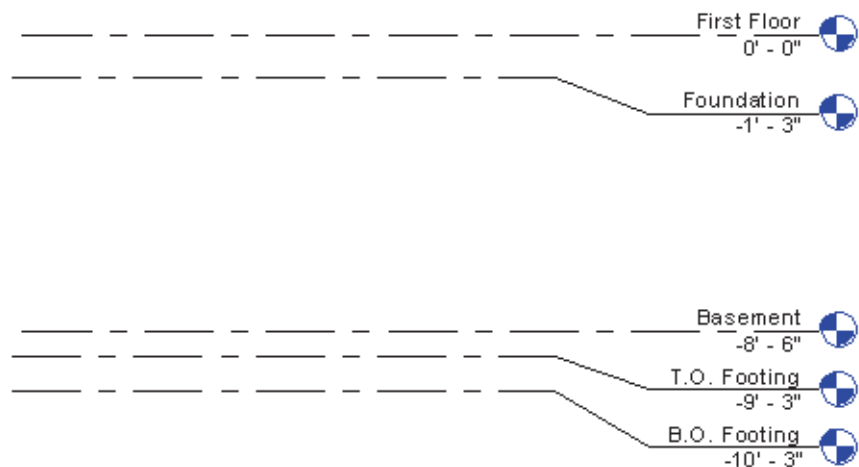

Figure 1–1
- Defining *Levels* in a project template is helpful. They could be just a few basic levels for a residential project, as shown in Figure 1–1, or 100 stories for a high-rise.